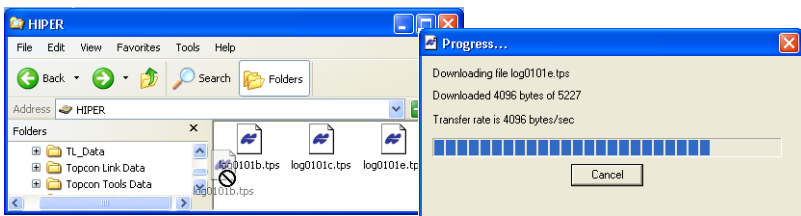

Figure 5-4. Start of File Import from the TPS Receiver/Import in Progress
8. To import the file(s) from the receiver to a folder, select the desired file(s) and copy to the folder using drag-and-drop method (Figure 5-4).